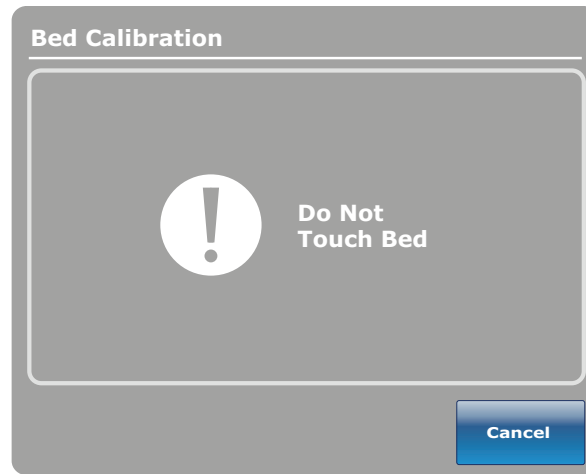

Figure 8 – Bed calibration - do not touch bed
8. Press the **Next** button when done. The Do Not Touch Bed screen appears (Figure 8).
12. Press the **Next** button when done. The Do Not Touch Bed screen appears (Figure 8).
16. The Do Not Touch Bed screen appears (Figure 8).
21. The Do Not Touch Bed screen appears (Figure 8).
26. The Do Not Touch Bed screen appears (Figure 8).